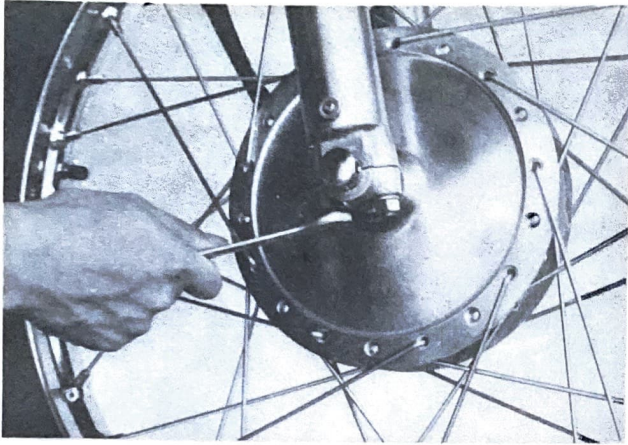

Fig. 14
10. Tighten the two axle holder nuts with specified torque. (Fig. 14)